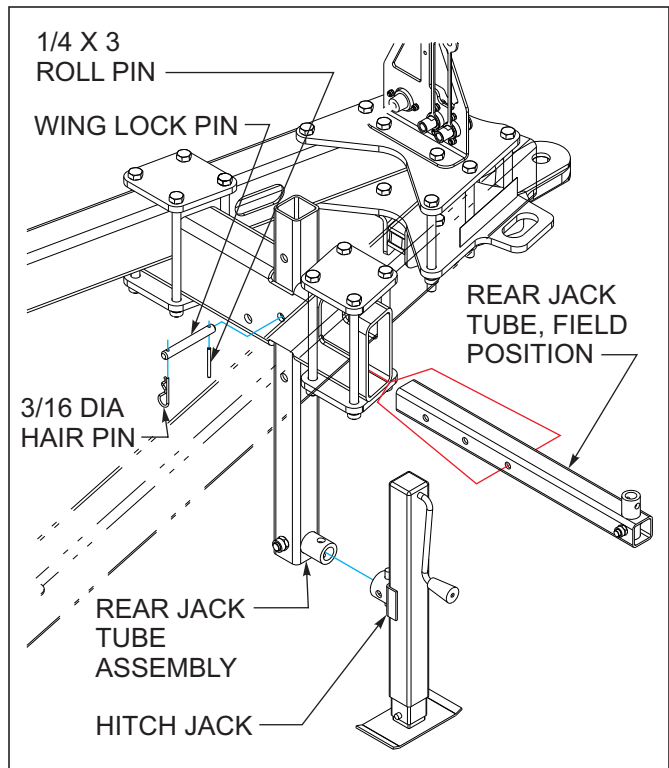

Figure 4-18: Rear Hitch Jack Operation
1. Remove the 3/16 dia hair pin from the wing lock pin and slide the rear jack tube assembly out of the hitch jack mount, field position (**See Figure 4-18.**)